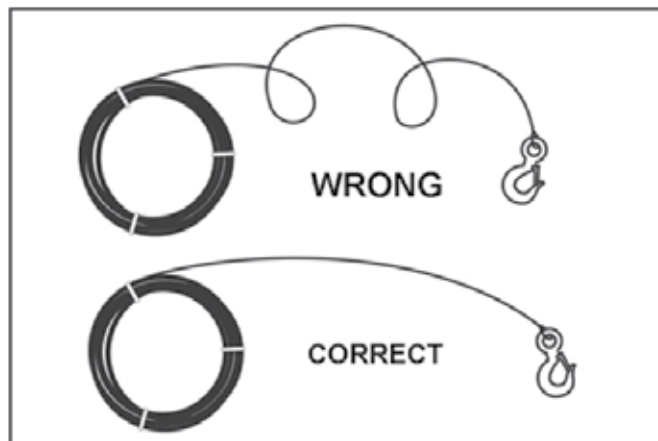

FIGURE 4
2. Lay out the wire rope correctly without twisting. Twisting the wire rope reduces its strength. See Figure 4.